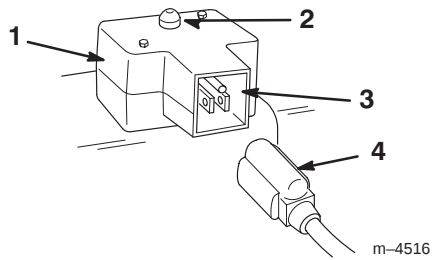

Figure 18
- **Electric Starter** (Fig. 18)—Push the starter button to start the engine.
- **Power Cord** (Fig. 18)—Connect the power cord to the electric starter and to an electrical outlet when starting the engine.
- A. Connect the power cord to the snowthrower (Fig. 18) and to a standard household power outlet.